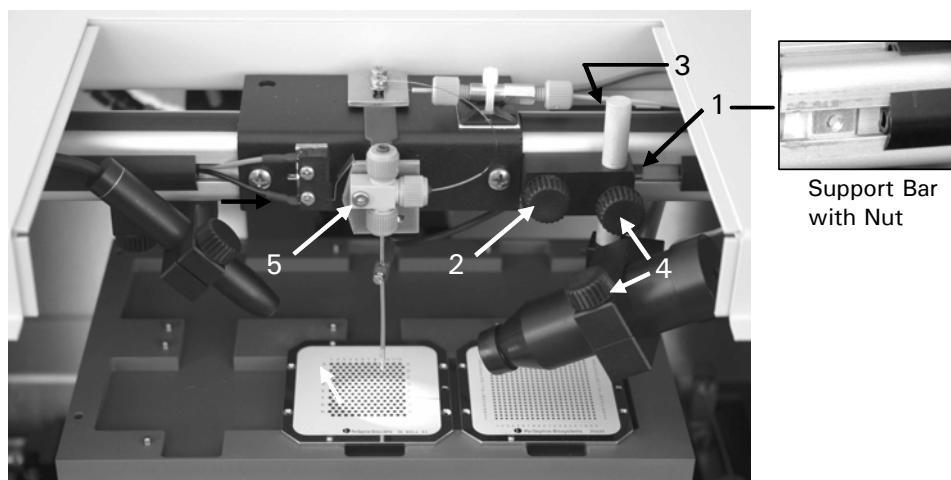

FIGURE 3-2 Installing the Video Camera
- a) Locate the nut close to in the support bar to the μ -Tee (item 1; FIGURE 3-2).
- b) Use the long knurled screw to attach the camera to the support bar (item 2; FIGURE 3-2).
- c) Plug the connector into the socket on the back of the support bar (item 3; FIGURE 3-2).
- Unscrew the mounting screw (item 5, FIGURE 3-2) and remove the μ -Tee from the mounting plate.